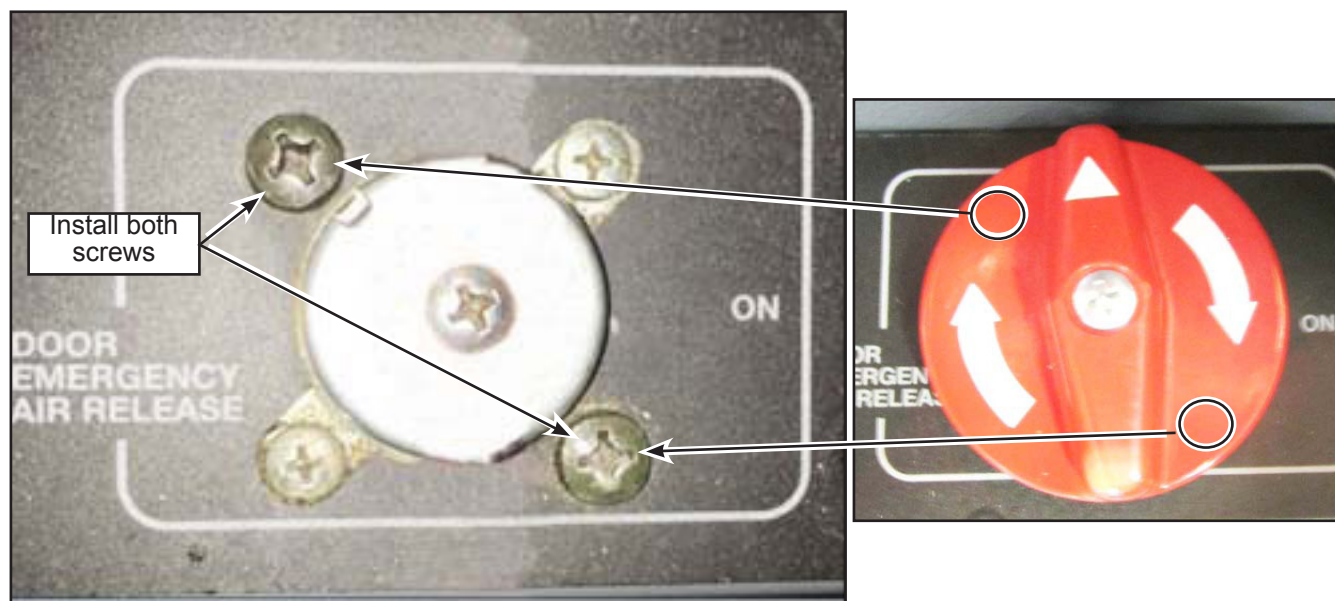

Figure 10 - Install Both Screws
1.11. Install both screws (see Figure 10).